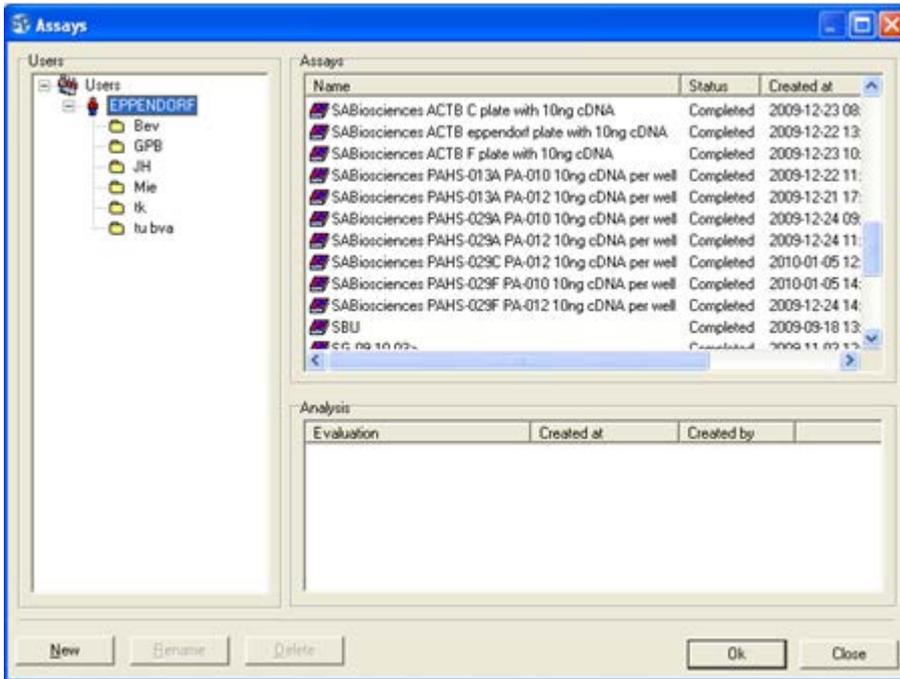

Figure 9. Opening the run file.
1. Click "File," then "Open Assay" (Figure 9) and find the run file to be analyzed. Alternatively, upon completion of a PCR experiment, a dialog box will appear prompting you to start analysis. Click "Yes."